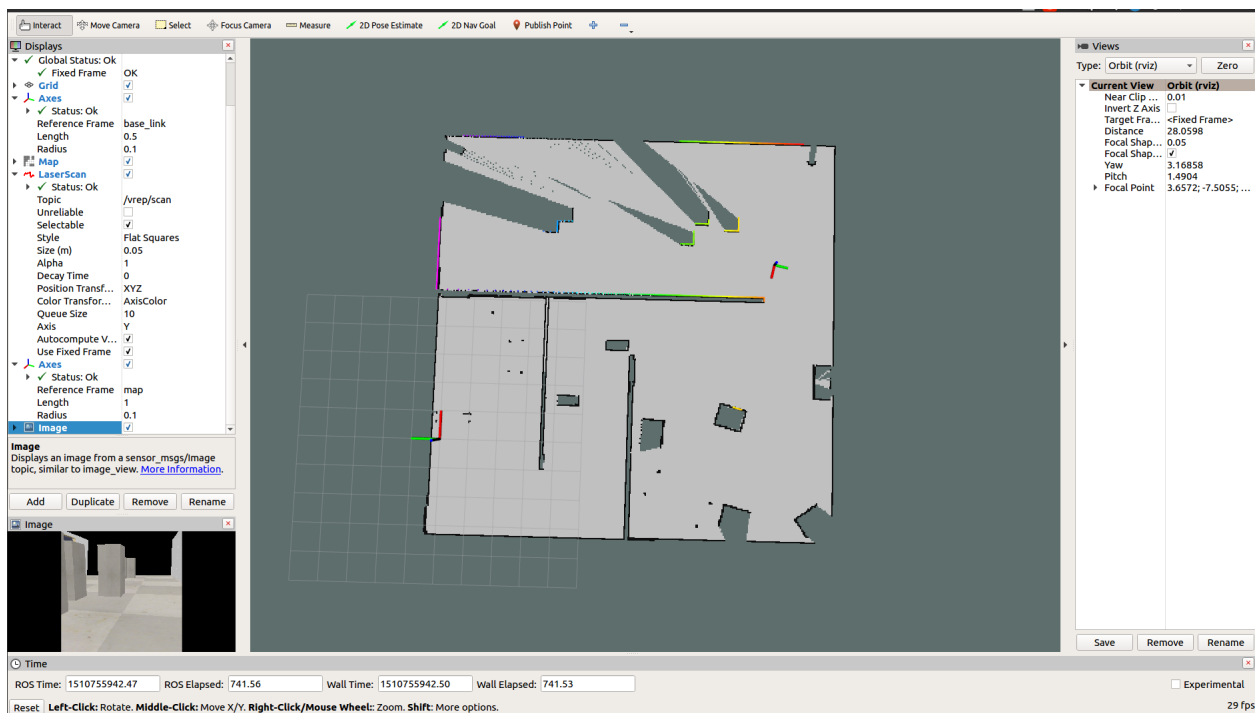

Figure 1: Grid map in Rviz
1. Build 2D grid map with laserscan data and show it via rviz such as Fig. 1 20%
3. at same time, the grid map should be shown in rviz. Fig.1